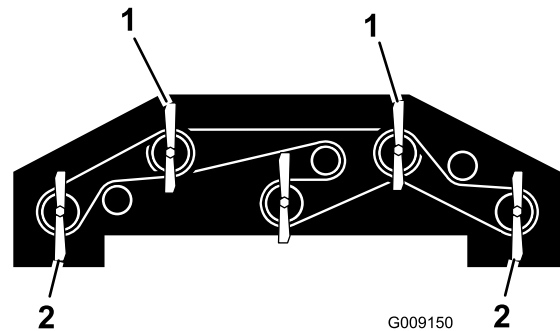

Figure 133
1. Rotate each blade so that they point straight forward (Figure 133).